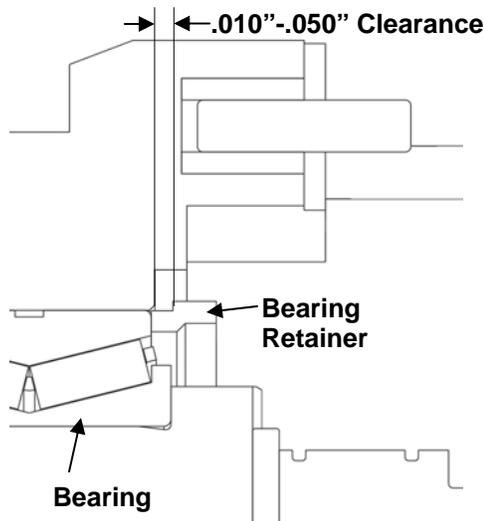
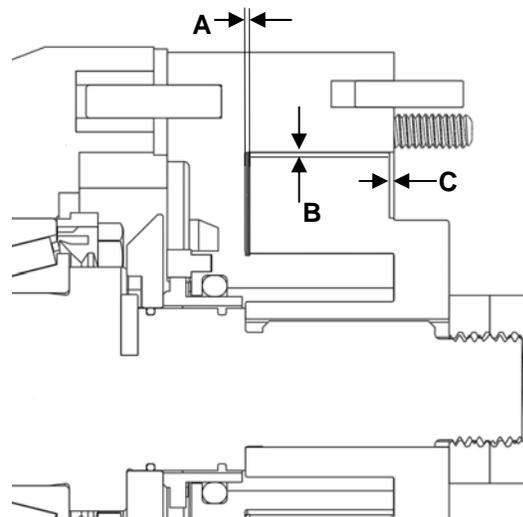

Figure 53: Bearing Retainer Clearance
Figure 54: Important Clearances
5) Once the shafts are pressed into the gear case, install the bearing retainers to hold the shafts in place temporarily (do not install liquid sealant). Ensure there is proper clearance between the retainer and the gear case, as seen in Figure 53. Place the body on the gear case, making sure it is seated correctly. Assemble the rotors into the body and tighten down using the jam nuts. Measure dimensions A, B, and C seen in Figure 54 and refer to Table 8 (page 30) to verify the clearances. If clearances are not correct, the shafts must be removed and the shims will need to be adjusted. If the clearances are correct, remove the rotors and body.